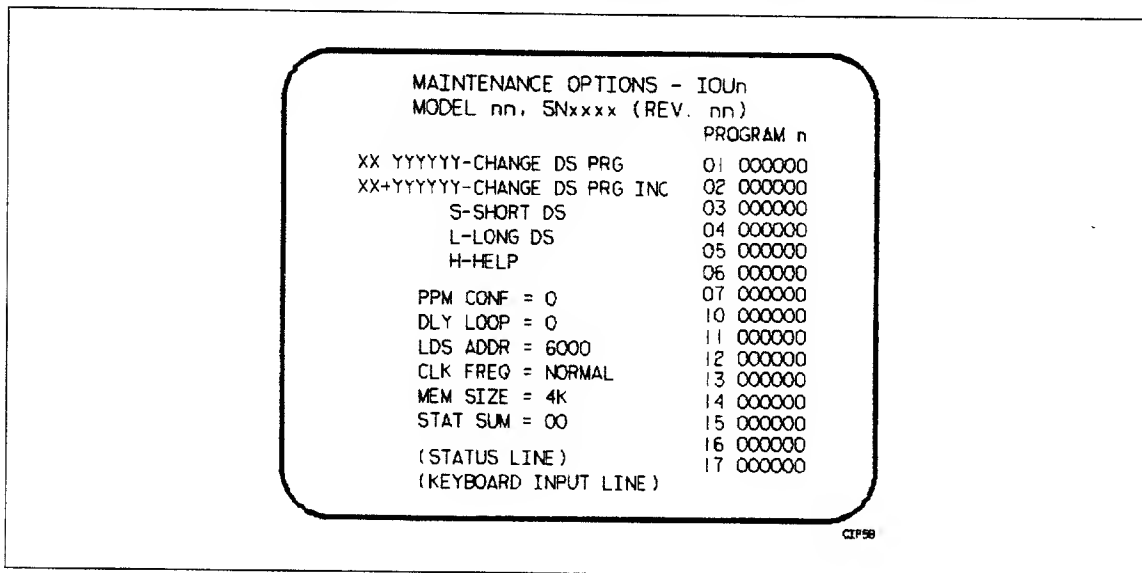

Figure 3-6. Maintenance Options - IOU0/IOU1 Display (Dual IOU Systems)
- ___ b. Type **0** to bring up the MAINTENANCE OPTIONS - IOU0 display, or **1** to bring up the MAINTENANCE OPTIONS - IOU1 display.⁴ Refer to figure 3-6.